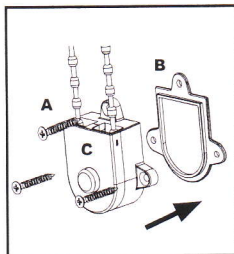

Fig 6
To install the Tension Device (A), position the Tension Device on a flat surface (window frame, wall, etc.) so that the chain and tension device do not interfere with the raising and lowering of the blind. The chain must be taut, but still operable (Fig. 6). **DO NOT ALLOW FOR ANY SLACK. DO NOT TWIST, CROSS OR SLANT THE CHAIN. THE CHAIN WILL NOT WORK IF NOT PROPERLY INSTALLED.**